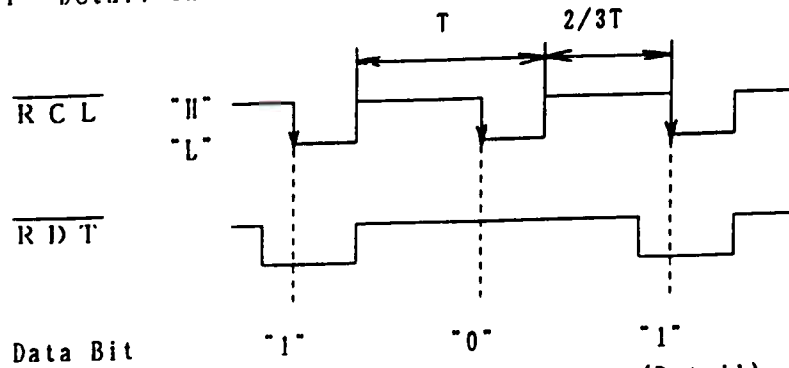

Fig 10.2 Timing Sequence (Detail)
- (1)  $\overline{CLD}$  (CARD LOAD) : The  $\overline{CLD}$  line will be Low when a Magnetic Card is running in the Magnetic Card Reader. The  $\overline{CLD}$  line will be High when the card is stopped or not present in the card reader.
- (2)  $\overline{RCL}$  (READ CLOCK) : This is used to sample the data line by it's falling edges. The time relationship of the clock with respect to the other signals is shown in Figure 10.2.
- (3)  $\overline{RDT}$  (READ DATA) : At the moment  $\overline{RCL}$  change from High to Low;  $\overline{RDT}$  is "1" when the  $\overline{RDT}$  line is Low, and  $\overline{RDT}$  is "0" when the  $\overline{RDT}$  line is High.
- (4) SGND : Signal GND
- (5) FGND : Frame GND